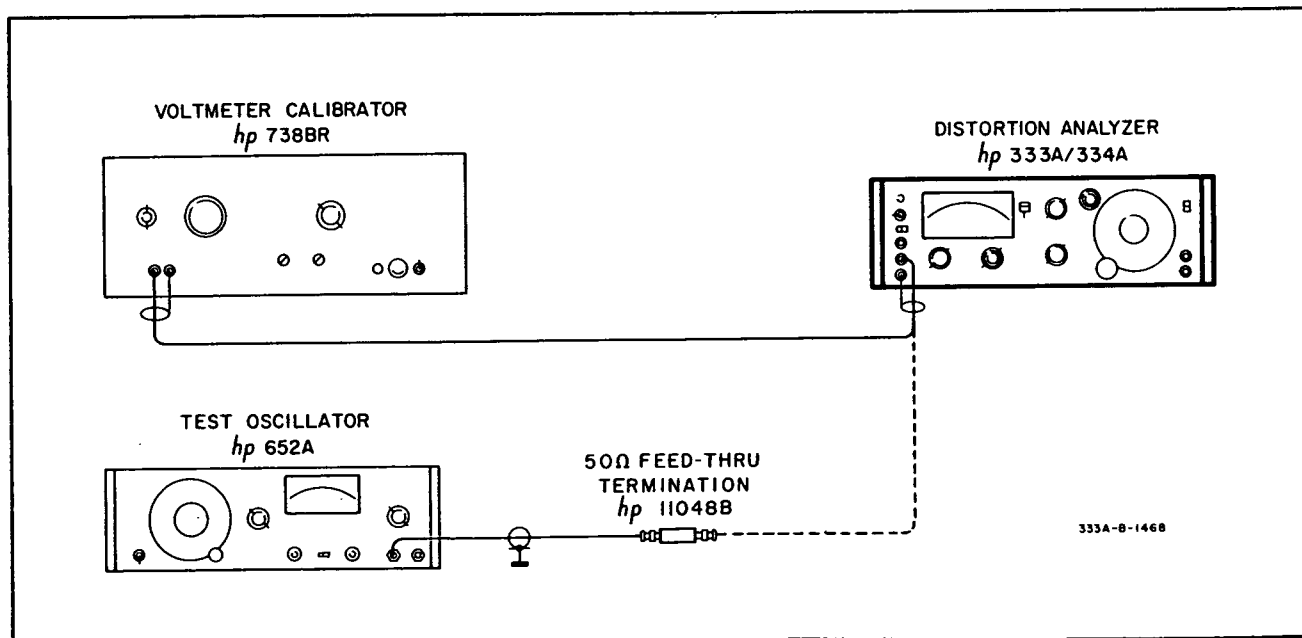

Figure 5-1. Voltmeter Accuracy and Frequency Response Check
- Connect voltmeter calibrator to 333A/334A as shown in Figure 5-1. Test oscillator will be used later in check.